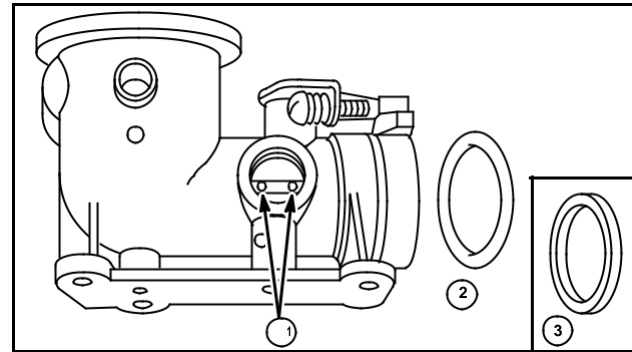

Fig. 18
NOTE: Metering holes in carburetor body (1) should be cleaned with solvent and compressed air only, Fig. 18. Typical "O" ring (2), early "O" ring (inset 3), Fig. 18.
1. Remove and discard "O" ring (Fig. 18).
3. Then pull needle and seat (3) assembly out (4).
4. Remove inner "O" ring (2).